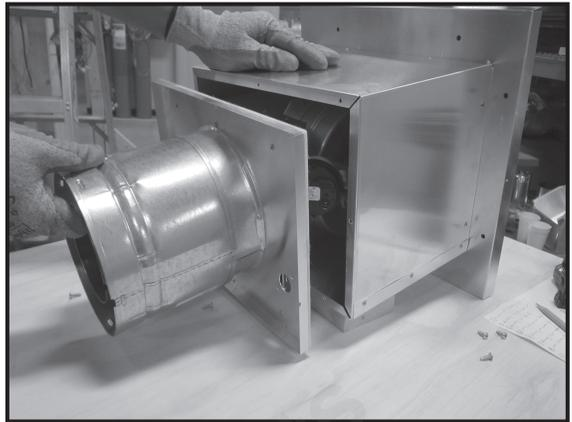

Figure 3.7
2. Slide the exhaust housing assembly out of the back of the cap. See Figure 3.7 and 3.8.